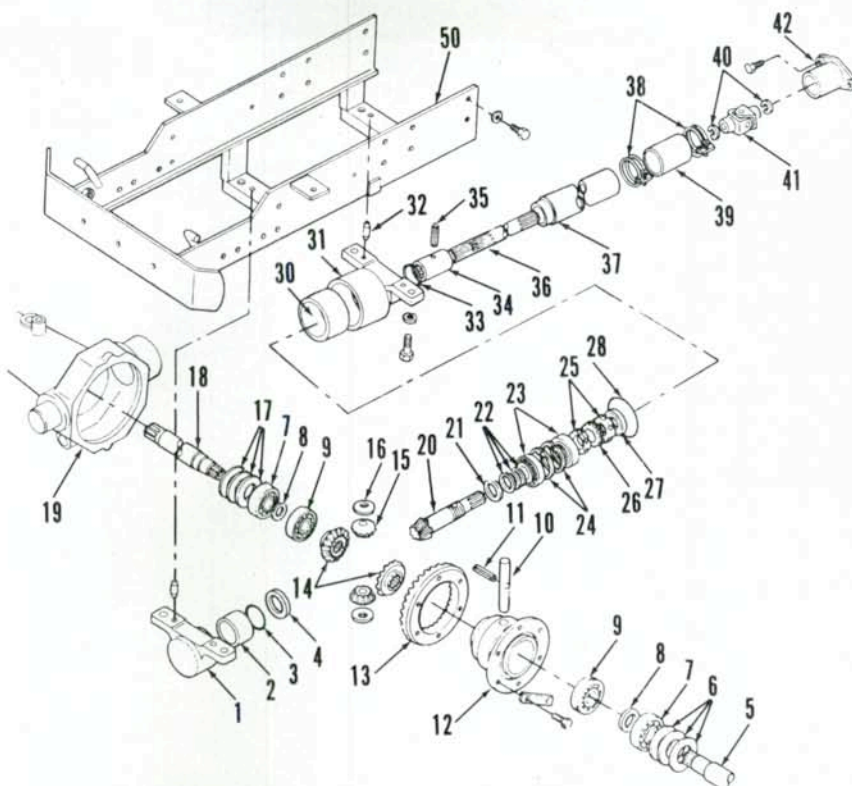

Fig. 17—Exploded view of front wheel drive differential assembly and bevel drive gears used on 1110 and 1210 models.
Install bevel pinion (20—Fig. 17, 18, 19 or 20) in differential housing (19) using shims (22) that were originally installed. To adjust pinion bearing preload, wrap a cord around pinion shaft as shown in Fig. 21. Use a spring scale to measure pull required to rotate the
shaft. Tighten inner nut (25—Fig. 17, 18, 19 or 20) until the specified spring scale reading is obtained as listed below.
On 1110 and 1210 models, assemble axle shaft (18—Fig. 17), shims (17), bearing (7), spacer (8) and differential assembly into right axle housing (19). Support the axle housing in the upright position with differential up. Make certain there is clearance between ring gear and bevel pinion. Add shims (17) if necessary. Assemble left axle shaft (5), inner bearing and spacer with more shims (6) than necessary into left axle housing. Position the axle housing assembly onto differential housing making sure there is clearance between the two housings. Use a feeler gage to measure the gap between the housings, then remove left axle housing and subtract shims from shim pack (6) equal to the measured gap.
Fig. 18—Exploded view of front wheel drive differential assembly and bevel drive gears used on 1710 and 1910 models. Refer to Fig. 17 for legend except for those listed.
shims (22—Fig. 17, 18, 19 or 20) to obtain desired tooth contact. Note that if pinion gear is moved, ring gear must also be moved to maintain recommended backlash.